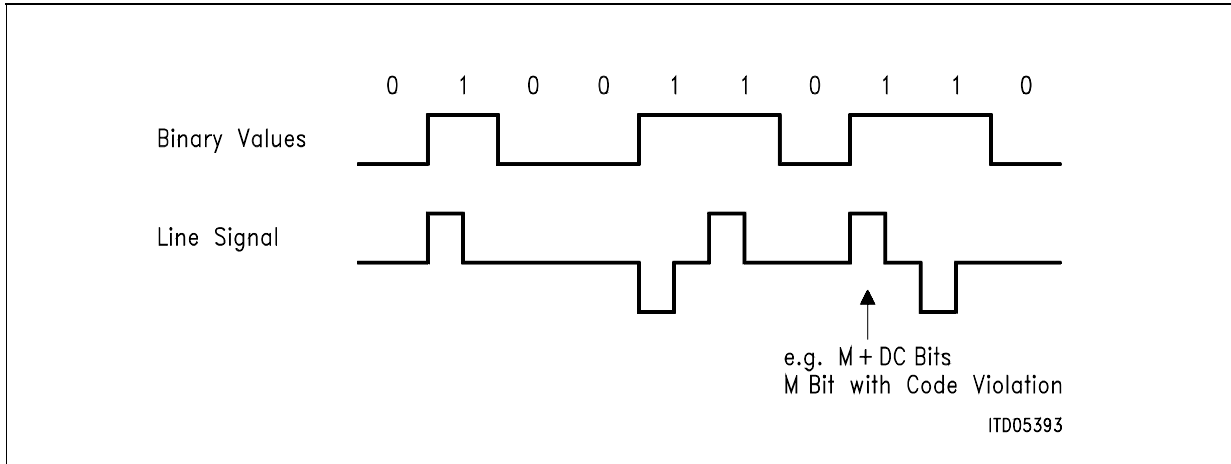

Figure 23 AMI Coding on the Up Interface
The coding technique used on the Up interface is a half-bauded AMI code (with a 50 % pulse width (refer to Figure 23). A logical '0' corresponds to a neutral level, logical '1's are coded as alternate positive and negative pulses. Code violation (CV) is caused by two successive pulses with the same polarity.